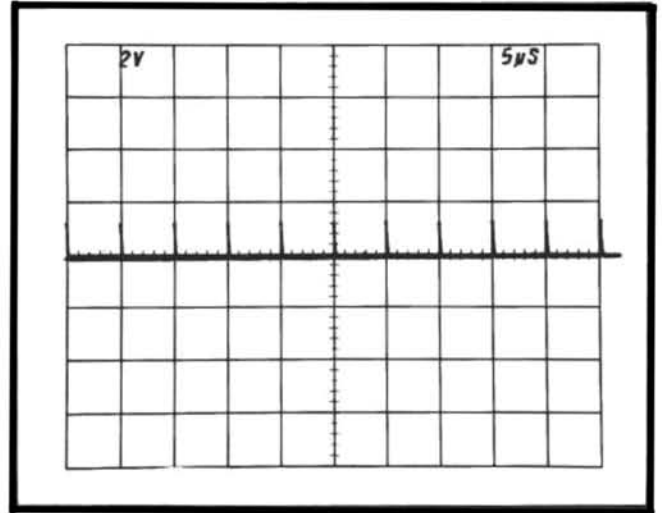

Fig. 5-11. CRT display showing correct 5 μs timing.
c. CHECK—CRT display for one marker each division between the second and tenth vertical lines. Check that sweep timing is within 0.16 division (2%) over the center eight divisions. See Fig. 5-11.